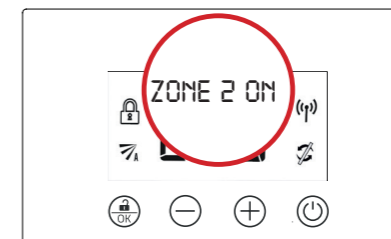

Fig.2
2.2. With the or keys select OFF (fig. 2).